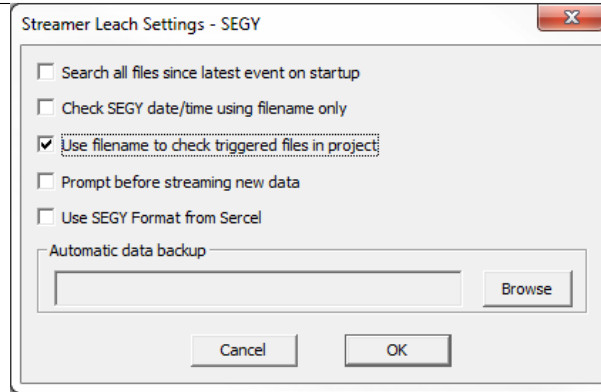

Figure 13-17: Further settings to control the SEGY or MIRF data to be leached.
- (b) If the file type is SEGY or MIRF, the user is also able to make further selections to control the data to be leached. The 'Settings' button becomes active, and when pressed launches a Dialog (Figure 13-17).